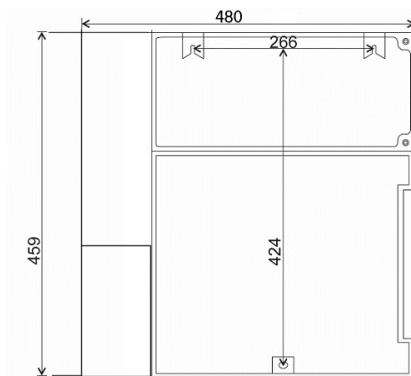

Figure 6
2. Drill the mounting holes as specified in figure 6.